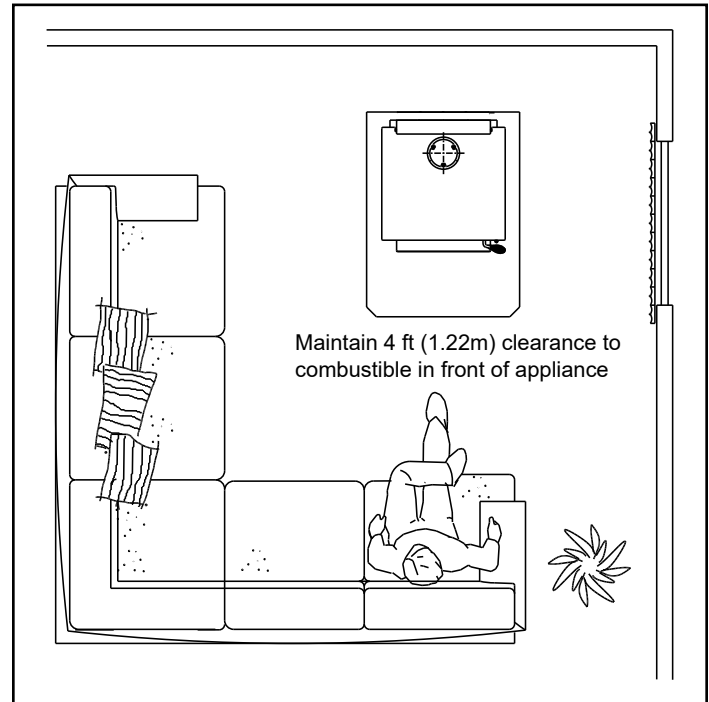

Figure 14.1
- Do NOT place combustible objects within 1.2m of the front of appliance (See **Figure 14.1**).